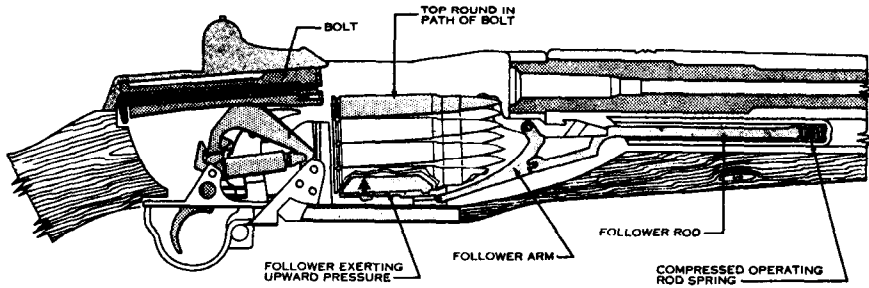

Figure 24. Position of parts when the bolt is in its rearmost position.
*c.* The cycle of operation is broken down into eight steps. These steps are listed below, together with a brief description of what actually occurs inside the rifle during each step. Assume that a full or partially filled clip has been loaded into the rifle and that the first round has been fired and the bolt is in its rearmost position (fig. 24).
- (1) *Feeding.* Feeding takes place when a round is moved into the path of the bolt. This is done by the follower assembly exerting an upward pressure on the bottom round in the clip. The follower assembly is continuously forced up by the pressure of the operating rod spring through the follower rod and follower arm (fig. 24).